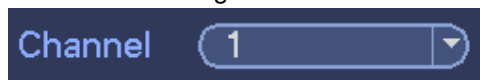

Figure 4-52
a) Select a channel you want to set. See Figure 4-52.